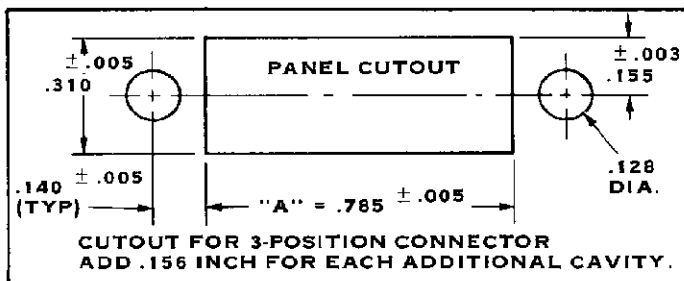

FIGURE 3
Refer to Figure 3 for the recommended Panel Cutout dimensions. Note that the layout shown is for connectors with three (3) Contact Positions — for each additional Contact Position, add .156 inch to dimension "A".
**NOTE** *These connectors can be FRONT or BACK Mounted to a panel. The Cutout shown in Figure 3 is applicable for both types of Mounting.*